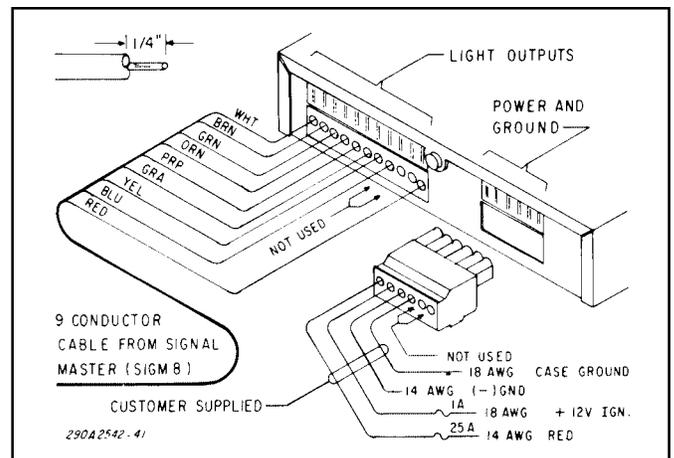

Figure 2.
The control unit is supplied with a six-position connector and a eleven-position terminal block to perform the electrical installation. User-supplied, 14-gauge red and black wires are required for the (+) BAT and (-) GND connections on the six-position connector. User-supplied, 18-gauge red and green wires are required for the (+) BAT/IGN and CASE GROUND connections on the six-position connector. Using figure 2 as a guide, complete this portion of the installation as follows:
g. Ensure that positions 5 and 6 of the six-position connector are not used (see figure 2).
c. Connect the eight 22-gauge wires and 16-gauge red wire to the terminal block as shown in figure 2. Positions 9 and 10 are not used.